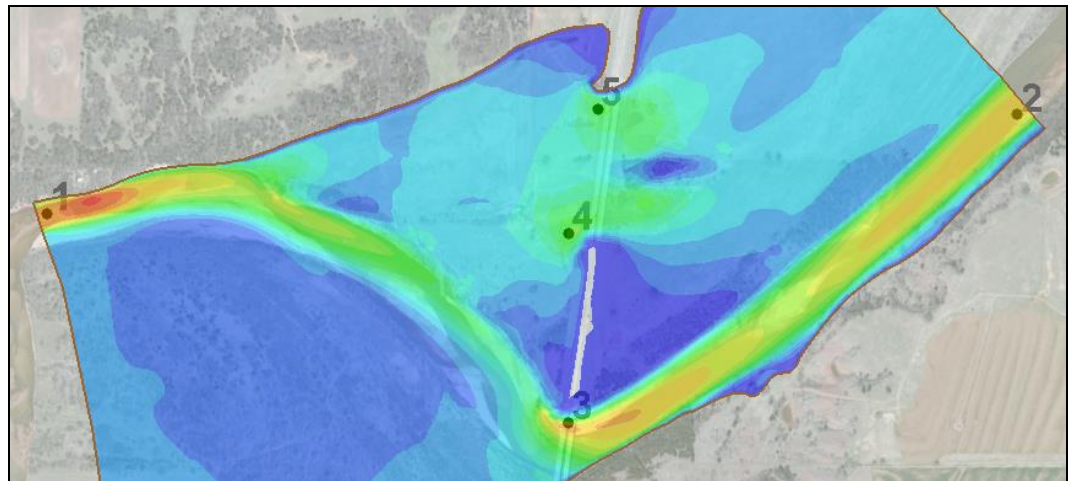

Figure 4 Locations of the five monitor points
6. Using the **Create Feature Point**  tool, place five monitor points in this model at the following location as show in Figure 4: